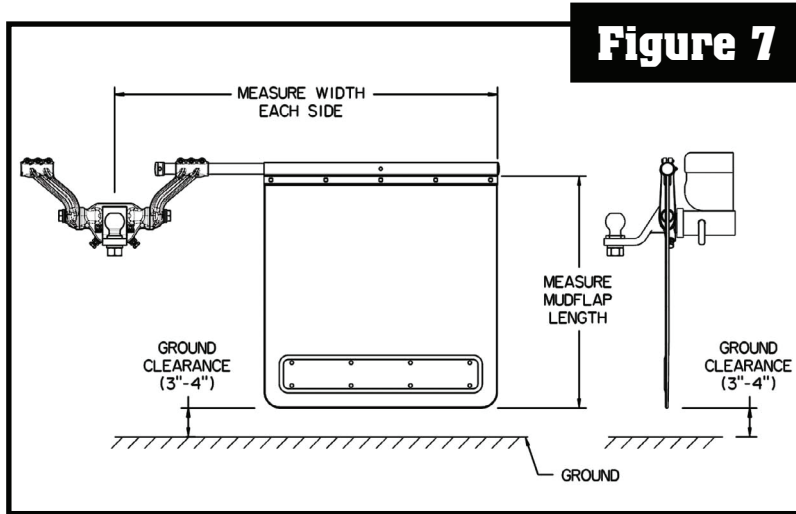

Figure 7
8. Make sure SUPPORT RODS are level on both sides and measure the distance from the bottom of FLAP SUPPORT ROD to the ground. Subtract the desired ground clearance (3" - 4" recommended or 75 mm – 100 mm). *Figure 7.*